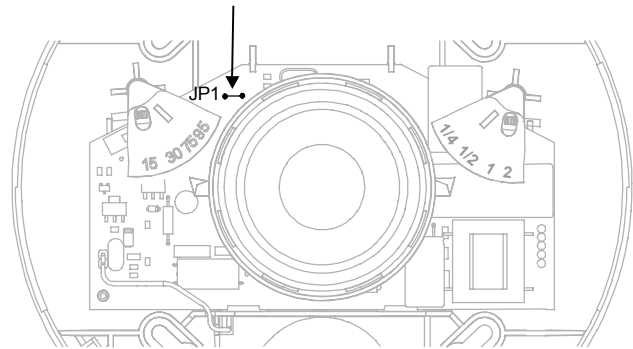

Figure 2: Strobe setting
2. If temporal strobe (private mode) operation is desired, cut jumper JP1. See Figure 2.